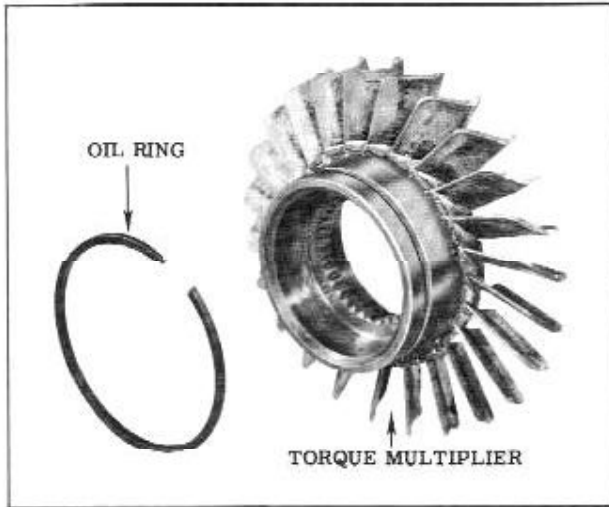

Figure 3-44 Torque Multiplier Oil Ring
15. If necessary, remove oil rings from driven torus member and torque multiplier (three rings). (Fig. 3-44 and 3-45)